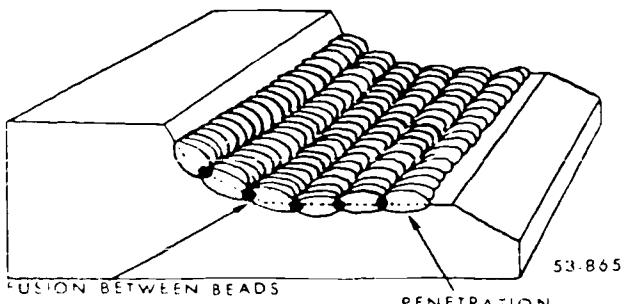
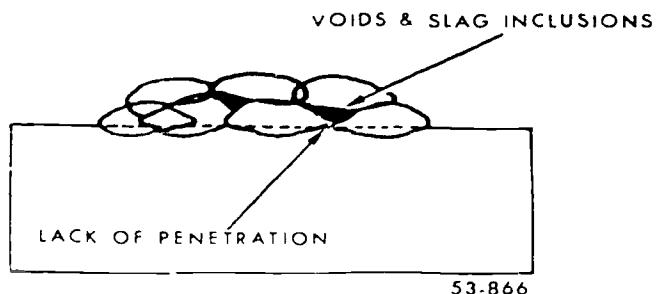

Figure 3-6. Correct padding.
Figure 3-7. Incorrect Padding.
*Welding procedure.* It is essential in padding to correctly merge successive and adjacent stringer beads. In laying each pass, hold the electrode so that it bites into the parent metal at the same time, as shown in figure 3-6. When the beads are not merged in this manner, defects will show up in the form of voids and slag inclusions, as shown in figure 3-7. You usually have a choice of running the beads either parallel or at right angles to the longest dimension of the work. You would normally choose the lengthwise direction, because it permits a longer interval of time before the concentrated heat of the arc comes back to the starting point. This procedure minimizes welding stresses by providing a greater length of time for the work to absorb and distribute the heat input of the arc.